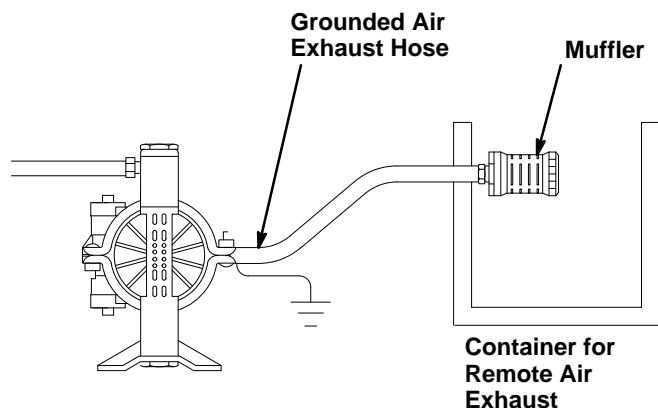

Fig 1
2. *Models 110–485, 110–486, and 110–487 Gun Washers:* Pipe and dispose of the exhaust air safely. If the diaphragm fails, the fluid is exhausted along with the air, through the muffler. When pumping flammable or hazardous fluids, you must vent the exhaust to a safe place, away from people, animals, or food handling areas. Place a container at the end of the air exhaust line to catch the fluid. See Fig 1.